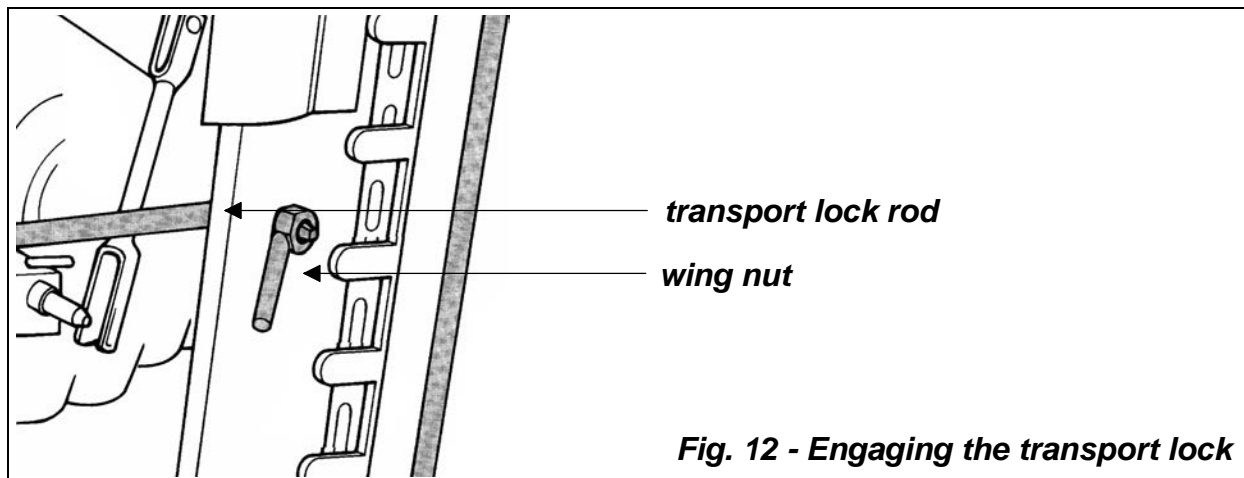

Fig. 12 - Engaging the transport lock
11. Remove the transport lock rod by removing the wing nut (**see fig. 12**) and rest the rod in the supplied position on the sickle bar.
Raise the stand, remove the blade guard from the cutting bar, remove the transport lock rod (see fig. 12), disengage the float lock (see fig. 10), lower cutting bar, fit the sickle bar by adjusting the tractor stabilizer bars so that when sickle bar is attached to the three points on the tractor, the external tip of the cutting arm is approximately 2" forward with respect to the arm base.
- To engage the transport lock rod, raise the cutting bar to 90°, position the rod through the hole on the cutting bar and secure it with the wing nut (**see fig. 12**).
7. Engage transport lock rod and secure it with the wing nut (**see fig. 12**).